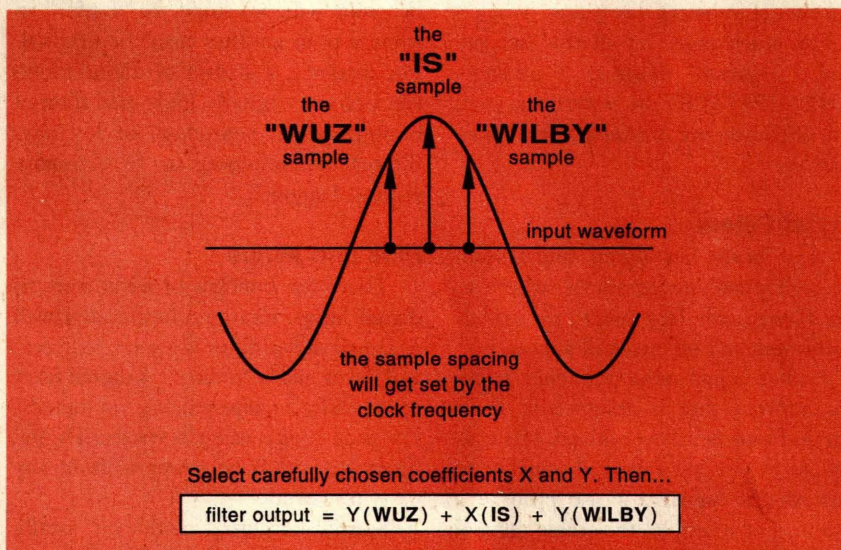

**FIG. 1—THE "TRISAMP"** is a useful building block that can let you understand, design, test, debug, and apply digital filters.
**Construction of the Basic 7107 Meter.** While breadboard or point-to-point wiring can be used, printed-circuit techniques work best. Foil patterns are included for a printed-circuit board based on the sample circuit in Fig. 1. Separate boards are used for the main circuit and the display. Multi-color ribbon cable works well as hook-up wire between the two boards. Keeping the sections separate affords a little more versatility. If you wish, the
Let's try something similar here. I'll call our basic building block a "trisamp," and it is shown in Fig. 1. Just as you can use and cascade second order analog sections, you can use and cascade trisamps.